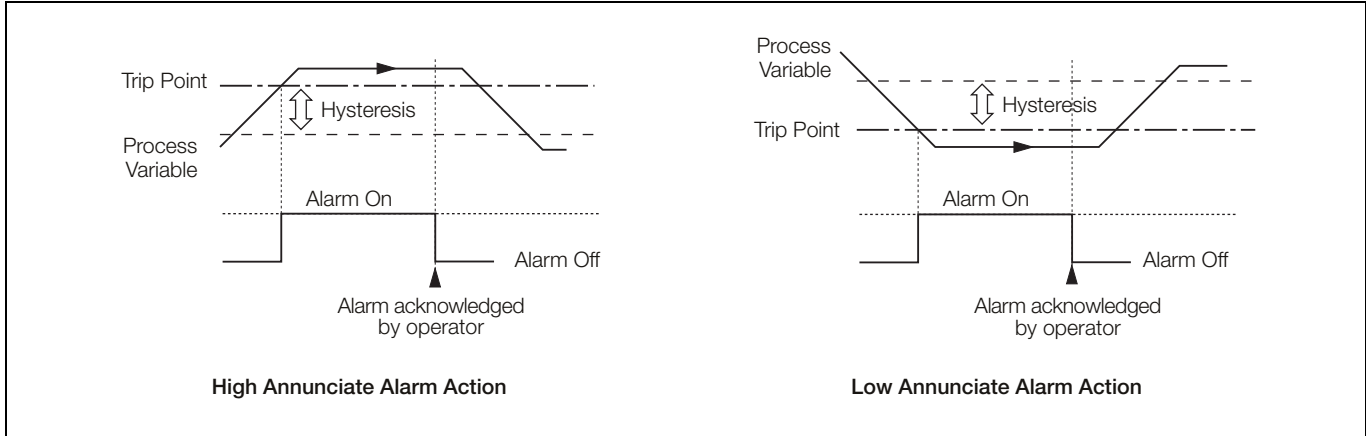

Fig. 6.16 High/Low Annunciate Alarms
- High/Low annunciate – see Fig. 6.16, page 94